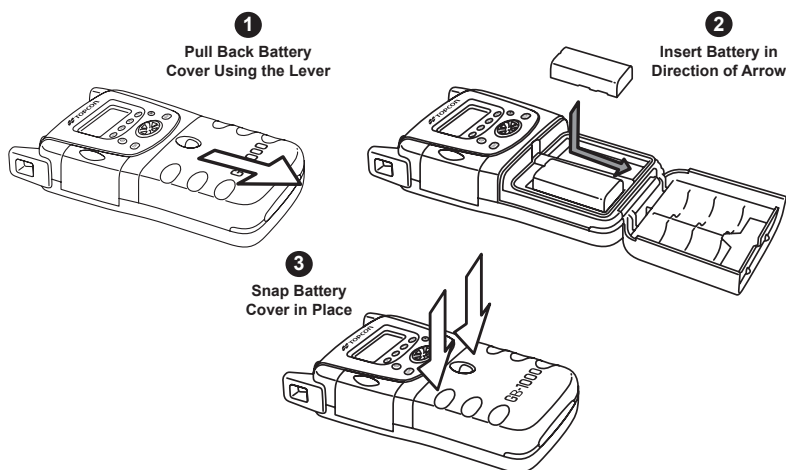

Figure 2-1. Inserting the Rechargeable BT-60Q Batteries
Figure 2-1 on page 2-2 illustrate steps one through three for inserting the BT-60Q batteries.
2. Insert the batteries, sliding them in the direction of the arrow shown in Figure 2-1.